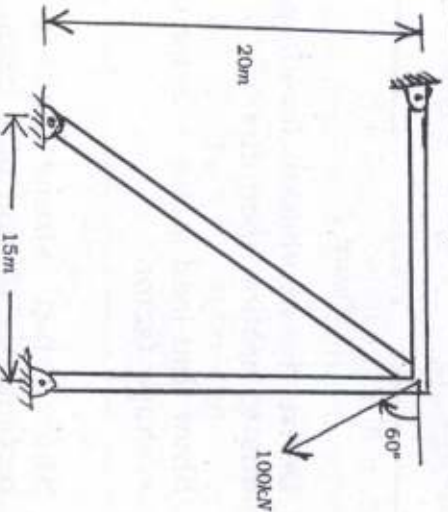

Figure 6
6. Determine the reactions and the forces in each member of the truss in Figure 6 by the Stiffness Matrix Method.